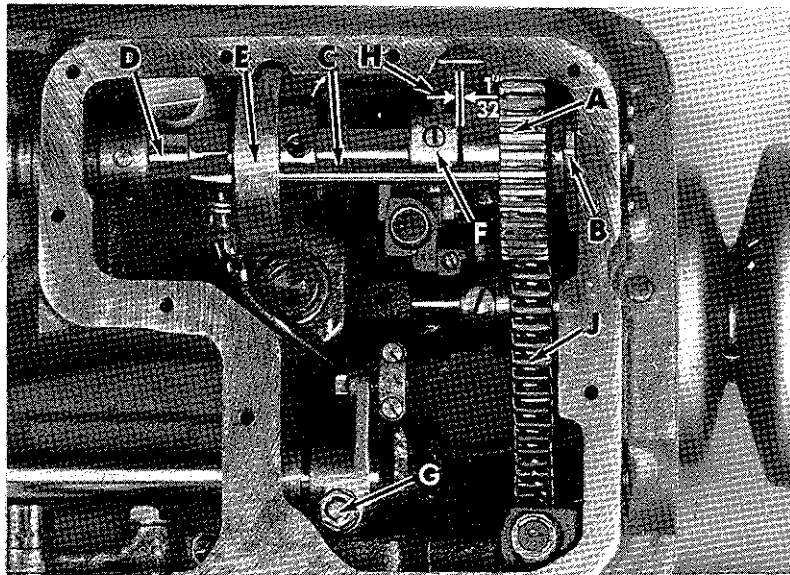

Fig. 9
To change or check the timing between the lower and upper main shafts, remove the head cover and the main gear case reservoir bottom cover (Fig. 9).
Upon location of the needle bar in its maximum "down" position, the timing may be checked by looking into the main reservoir at the bottom. If the machine is timed properly, the flexible coupling pin (C, Fig. 9) will line up with the center of the lower main shaft (D). It will also be noted that the end of the pin (C) which is held in gear (A) will line up with the small casting boss (B). Since the flexible coupling head (E) has two pins, located 180° apart, care must be taken to choose the correct pin for the timing check. The correct pin (C) which is the farthest away from the two hub securing screws, is to be used for this check.
If the feed timing is incorrect, loosen the two set screws on the main shaft collar (F, Fig. 9) and remove the bed casting screw (H). Now, slip the flexible coupling gear (A) to the left, far enough to disengage it from the idler (intermediate) gear (J). This will allow you to set the lower main shaft to the upper main shaft. After timing has been made, slip the flexible coupling gear (A) to the right to engage it with the idler (intermediate) gear (J). Replace the bed casting screw (H) and tighten securely. Move the main shaft collar (F) to the right, maintaining a 1/32 inch between it and the flexible coupling gear (A) when this coupling gear is fixed in operating position at extreme right. Tighten the two set screws on collar (F) securely.
To center needles in the feed dog in the line of feed, remove the bottom cover of the main reservoir exposing the clamp screw (G, Fig. 9) in the feed driving arm. Loosening the screw enables the feed rocker shaft to be rotated to secure the proper location of the feed dog. Retighten clamp screw and replace main reservoir bottom cover, after locating feed dog.